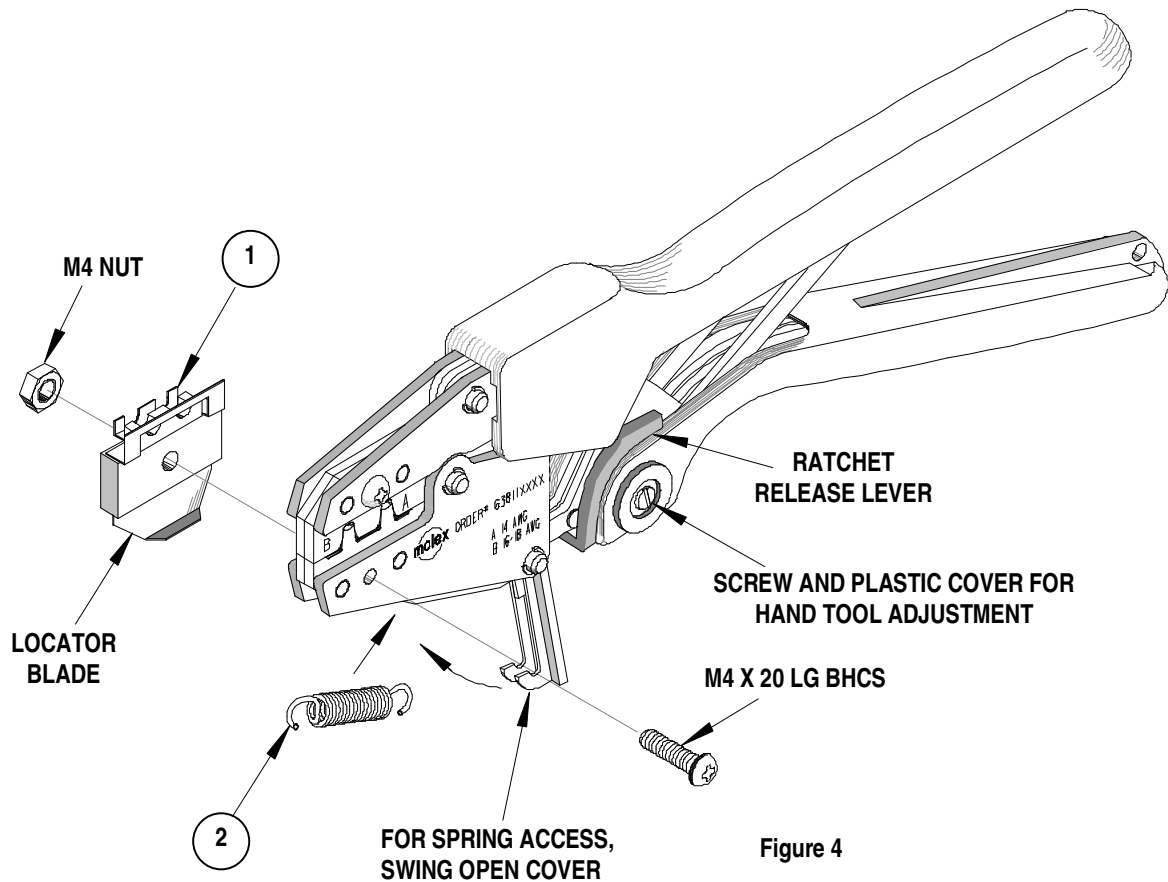

Figure 4
4. Close the tool until the ratchet releases, (See Figure 4).
Should this tool ever become stuck or jammed in a partially closed position, **Do Not force the handles open or closed.** The tool will open easily by lifting the ratchet release lever (See Figure 4).
63811-0600 Hand Crimp Tool for "Sabre" Flat Blade Male Terminals**How To Adjust Tool Crimp Force** (See Figure 4)